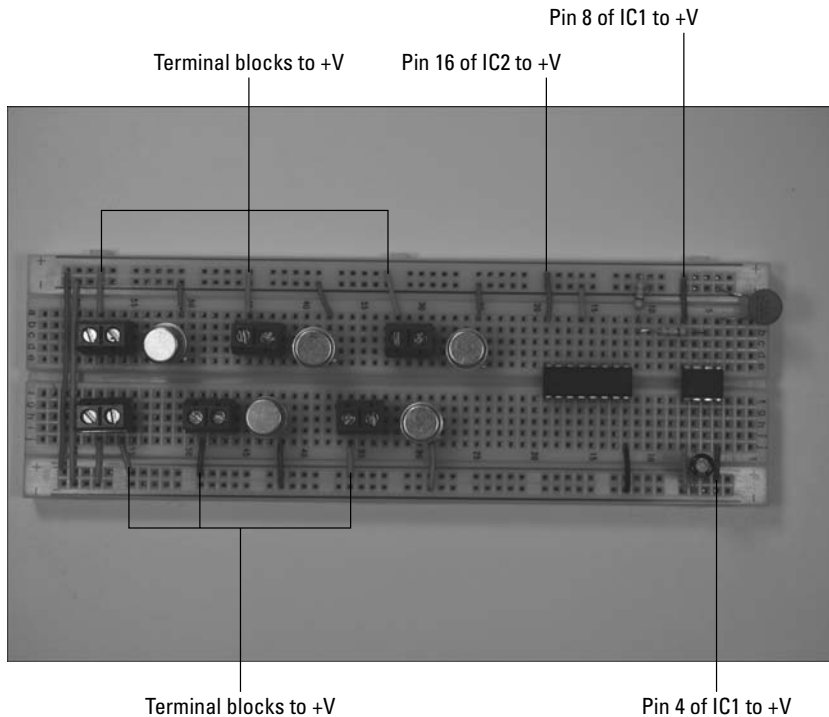

Figure 10-11: Connect components to the +V bus.
4. Insert wires to connect the ICs and the terminal blocks to the +V bus, as shown in Figure 10-11.